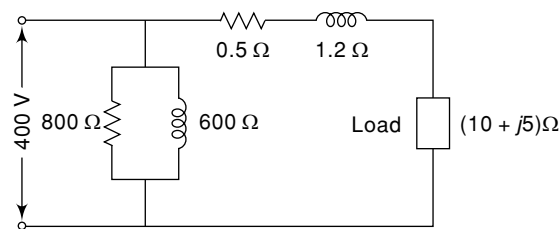

Fig. 3.21 Circuit diagram for Example 6.48
3.48 The diagram in Fig. 3.21 shows the equivalent circuit for a single-phase transformer. The ratio of secondary to primary turns is 15. Find the (i) secondary terminal voltage, (ii) the primary current and (iii) efficiency.